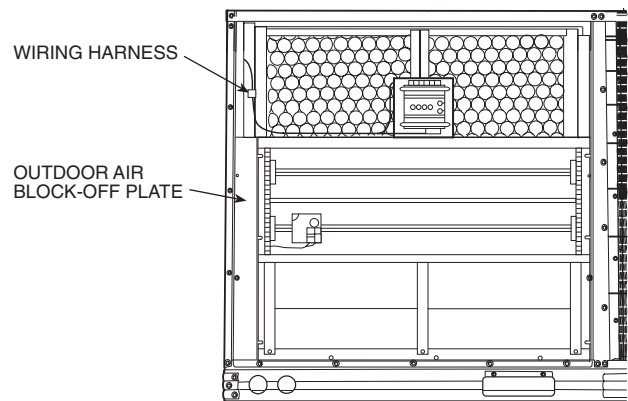

Fig. 35 — EconoMi\$er Installed in 48TF008 and 012 Units
8. Install the outdoor air block-off plate, then secure the EconoMi\$er with the screws provided. See Fig. 35.